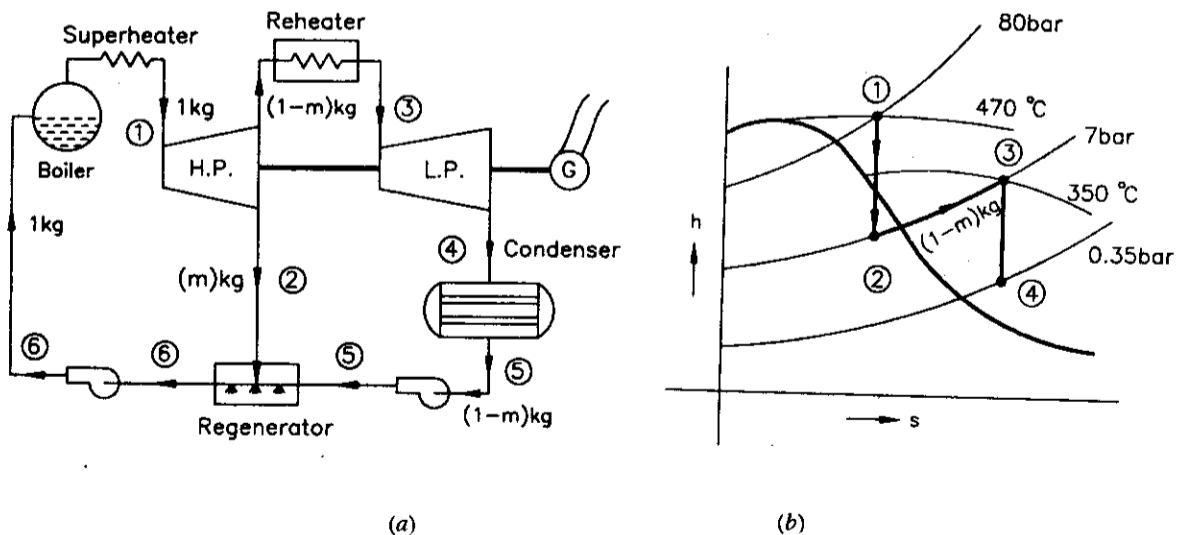

Fig. Prob. 22.26.
**Solution.** The arrangement of the components of the system is shown in Fig. Prob. 22.26 (a) and the processes are represented on h-s diagram as shown in Fig. Prob. 22.26 (b).